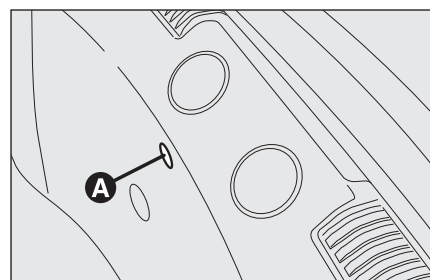
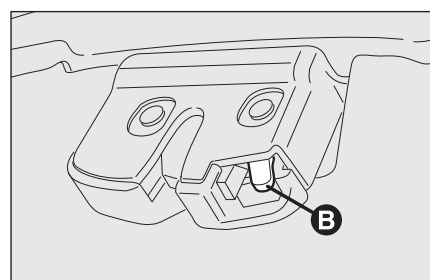

fig. 4
fig. 5
- ☐ take the screwdriver from the tool container and working inside the boot (on the rear part), fit it into seat **A**-**fig. 4** and then operate lever **B**-**fig. 5**.